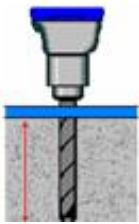

Fig 3
1. Drill anchor holes for expansion bolts on the ground with an electrical drill. Make sure to drill vertically. **(Fig 3)**